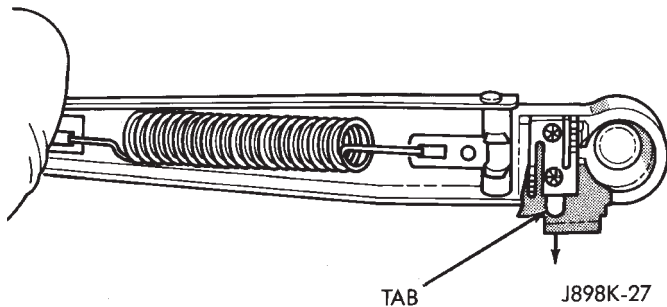

Fig. 1 Wiper Arm Removal
(1) Remove wiper arm assemblies by lifting blade off windshield and pulling out on the tab (Fig. 1) to lock wiper arm in UP position.